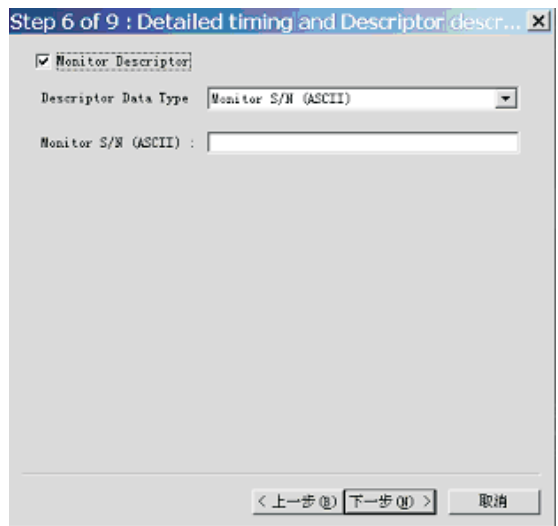

Fig. 19
5. Click Next , bring up Fig.19.